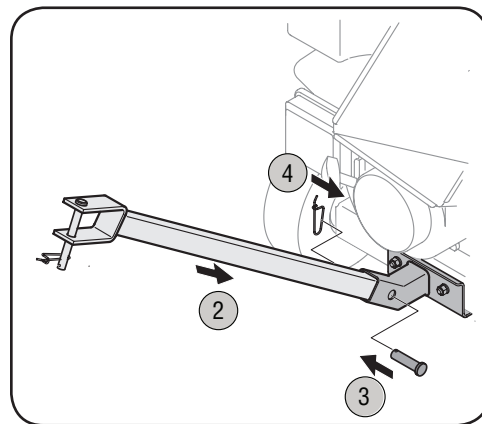

Figure 3-4
2. Insert the tow bar into the receiver. See Figure 3-4.
3. Reinsert the clevis pin through aligning holes in both the tow bar and the receiver. See Figure 3-4.
4. Fasten with the spring pin to secure. See Figure 3-4.